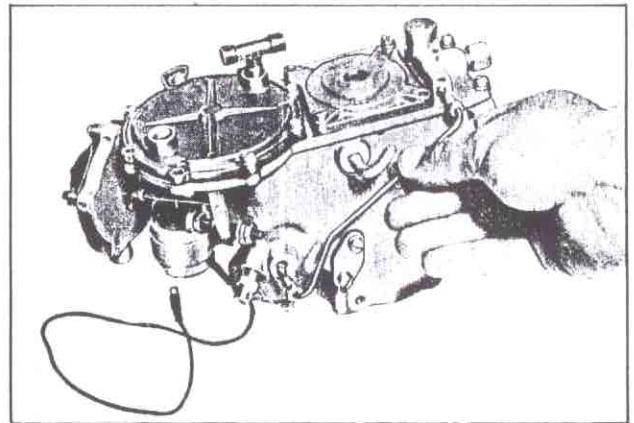

Fig. 156—Installing Starting By-pass Fuel Line
22. Reinstall starting by-pass fuel line (fig. 156).